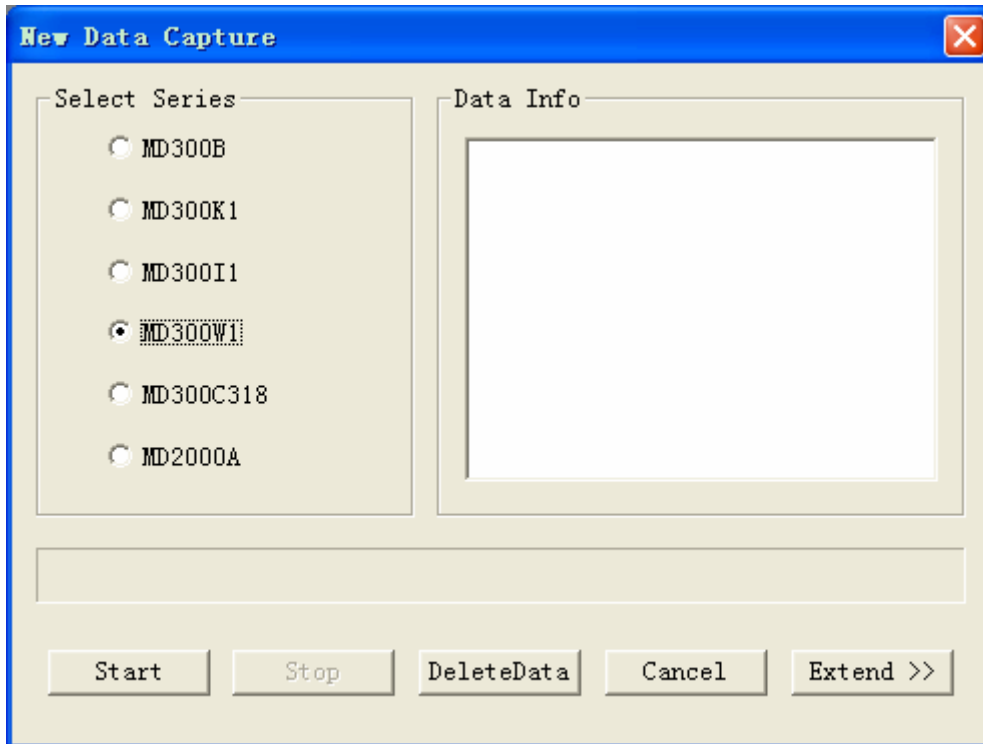
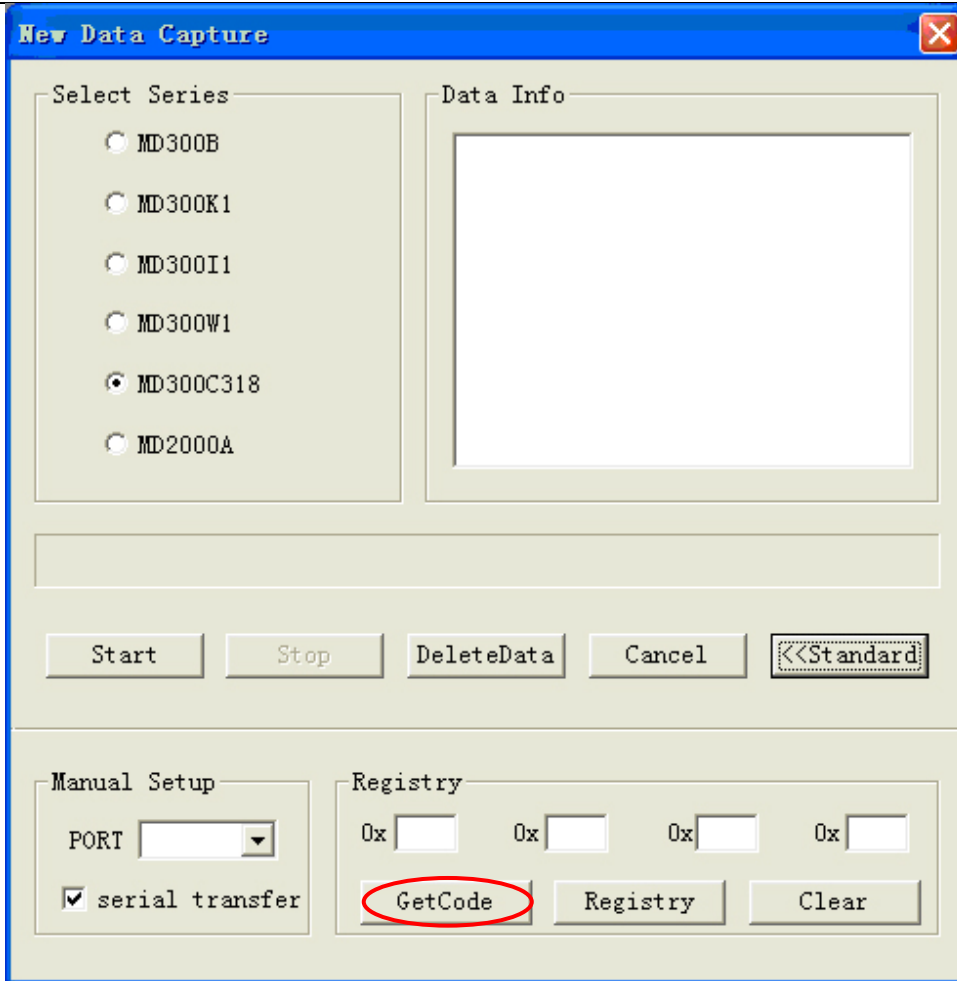
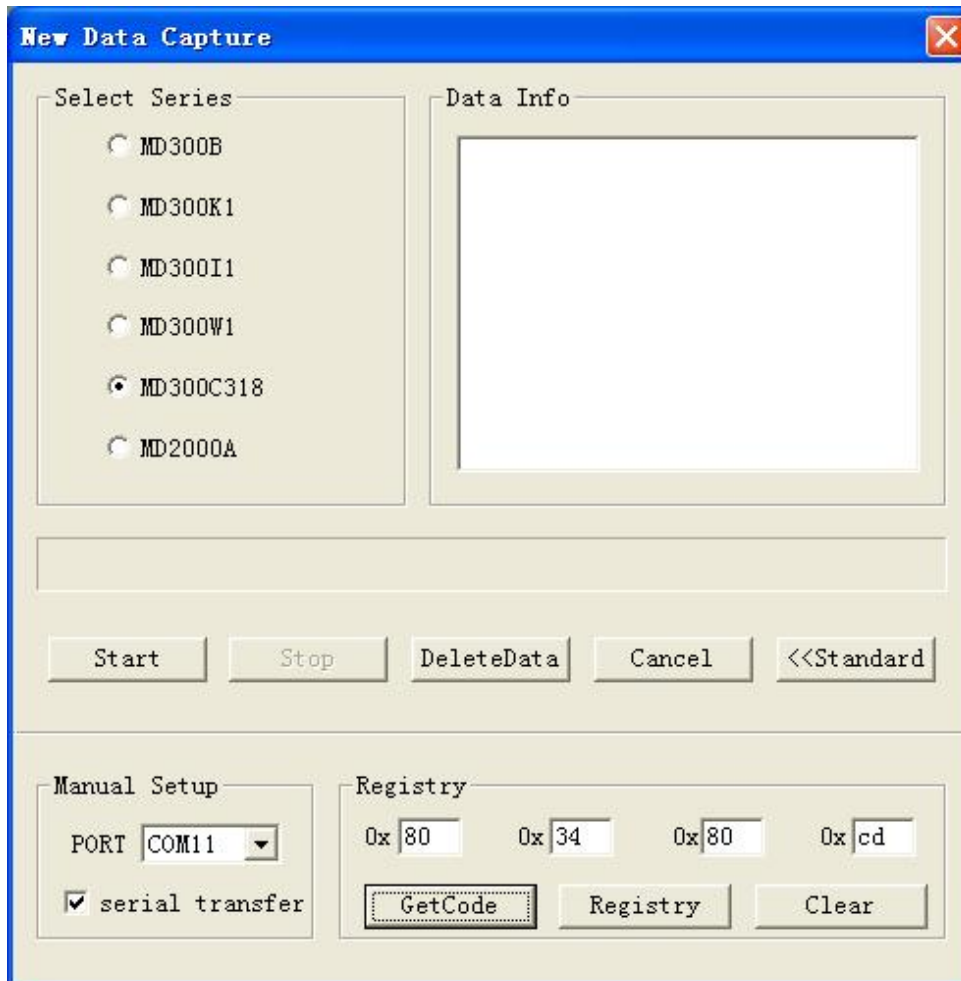

Figure 3-3
Figure 3-5
Figure 3-6
3.2.3 Select the model of the oximeter, such as “MD300W1”, as shown in Figure 3-3.
(1) Click “Extend” button in Figure 3-3, the following interface will appear as shown in Figure 3-5. Click “GetCode” button, to get a device code. Then the device code will appear in the blanks, as shown in Figure 3-6.